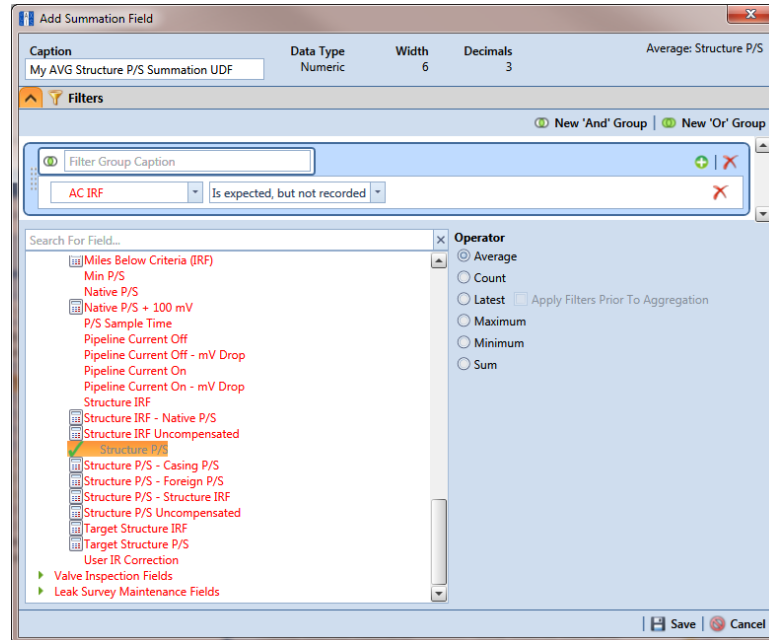

Figure 3-60. New 'And' Filter
- b** Click  **New 'And' Group** to open the filter properties group box (Figure 3-60, page 108).